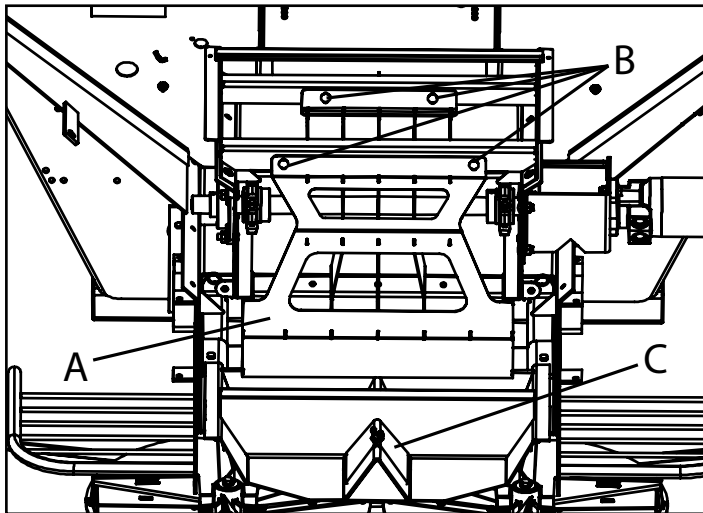

Figure 15B - MULTAPPLIER Hillside Divider (Style II)
Style II MULTAPPLIER - Loosen hardware from rear two chain shield holes on each side of MULTAPPLIER. Install MULTAPPLIER Hillside Divider (A) and fasten to Support using single bin Hillside Divider hardware removed before MULTAPPLIER installation (B). Adjust Hillside Divider so that the middle divider is centered over both conveyors and the Material Divider (C) as shown in Figure 15B. Tighten all hardware to recommended torque.